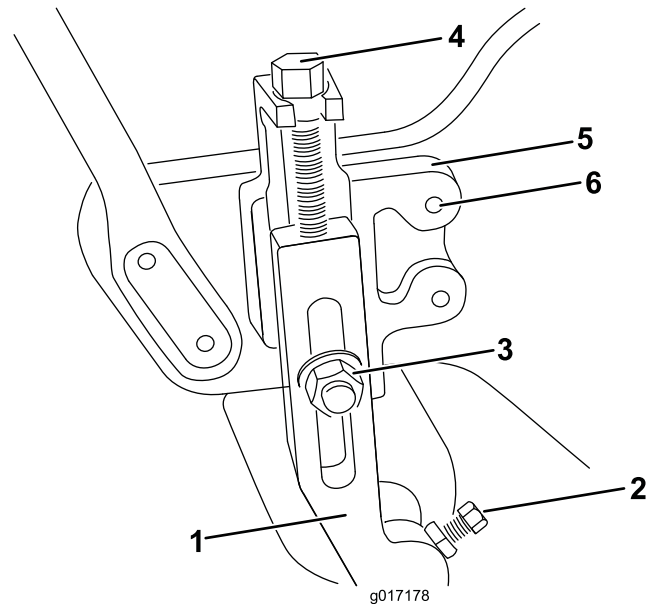

Figure 1
1. Loosen the jam nuts and set screws securing each end of the front roller to the height-of-cut arms (Figure 1).
2. Remove the carriage bolts and locknuts securing the height-of-cut arms to the adjusting brackets (Figure 1).
- Greensmaster 1600 mowers—remove the height-of-cut adjusting screws, jam nuts, and set screws from the height-of-cut arms (Figure 1).
- Greensmaster 800 and 1000 mowers—remove the 2 taper-face bolts securing the right and left height-of-cut brackets to the side plates (Figure 1). Install the height-of-cut brackets to the opposite